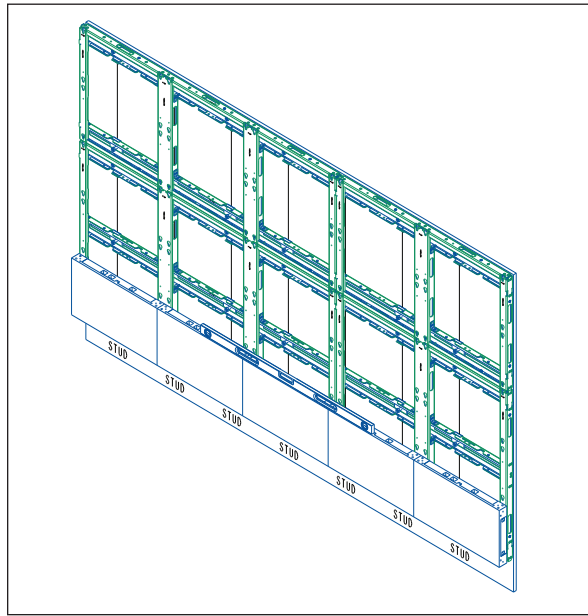

Figure 22: Install Remaining Panels in Bottom Row
4. Repeat **Steps 1–3** for the remainder of the first row. Refer to **Figure 22**.